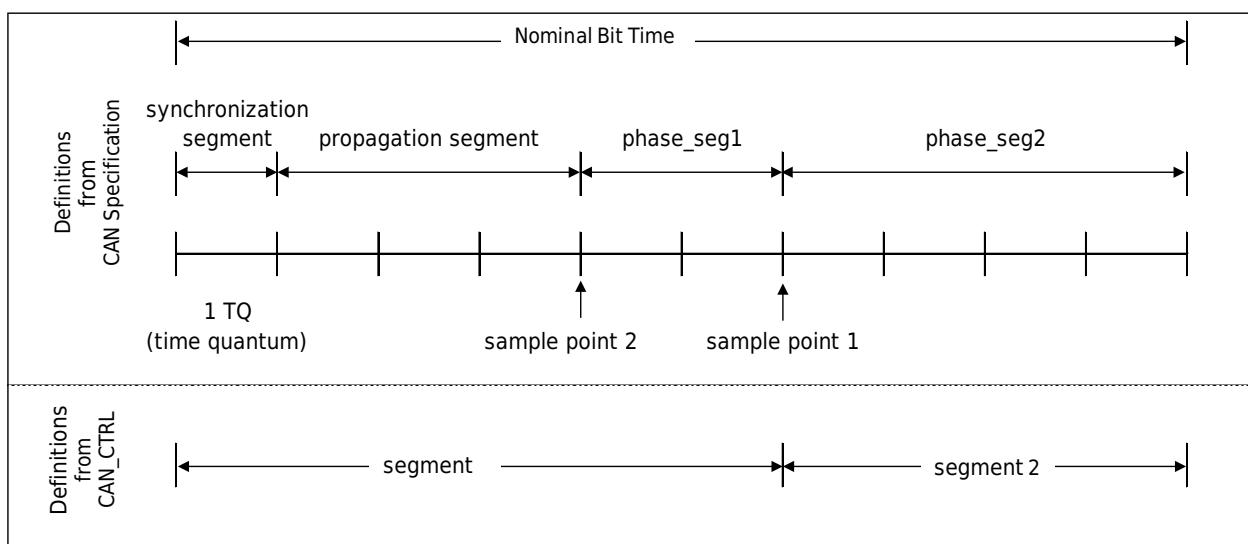

Figure 30-2 CAN bit time definition diagram
- 1) If the PRESC bit of the BT register is set to ≥ 1 , refer to sample point 1 in Figure 30-2, the sampling point is located at the boundary between segment1 and segment2.
- 2) If the PRESC bit of the BT register is set to 0, as shown in sample point 2 in Figure 30-2, the sampling point is 2 TQ ahead of the segment1 and segment2 boundary points.